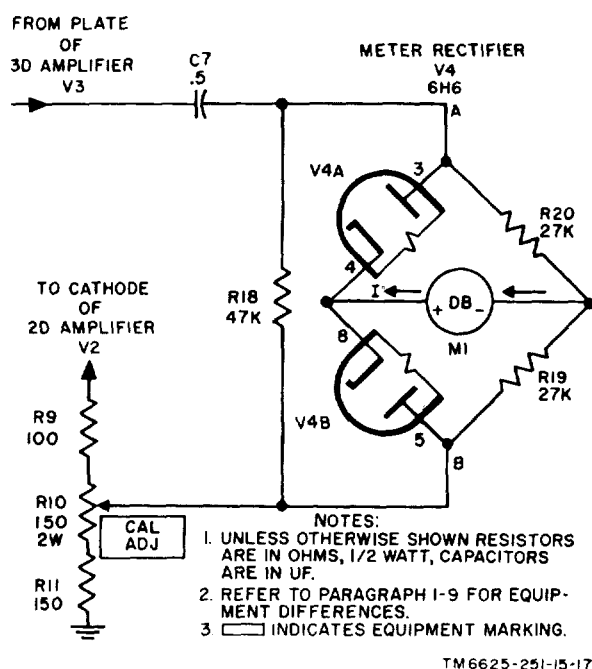

Figure 5-16. Decibel Meter ME-22(*)/PCM, meter rectifier circuit, simplified schematic diagram.
The meter rectifier circuit consists of tube V4, meter M1, and associated circuit elements. Meter rectifier tube V4 is connected in a bridge circuit with resistors R19 and R20 and meter M1. Figure 5-16 shows a simplified schematic diagram of this circuit. The two sections of tube V4 are designated V4A and V4B for convenience in this discussion.
a. The signal at the plate of third amplifier tube V3 is applied through capacitor C7 to one side of the rectifier circuit, point A in figure 5-16. The voltage at the movable arm of CAL ADJ potentiometer R10 is applied to the other side of the rectifier circuit, point B in figure 5-16. The voltage applied from the plate of tube V3 and the voltage from the cathode of second amplifier tube V2 are in phase. The applied voltage across the rectifier circuit is alternately positive and negative. When the voltage at point A is positive with respect to point B, current flows through resistor R19, meter M1, and tube V4A into capacitor C7. When point A is negative with respect to point B, current flows out of capacitor